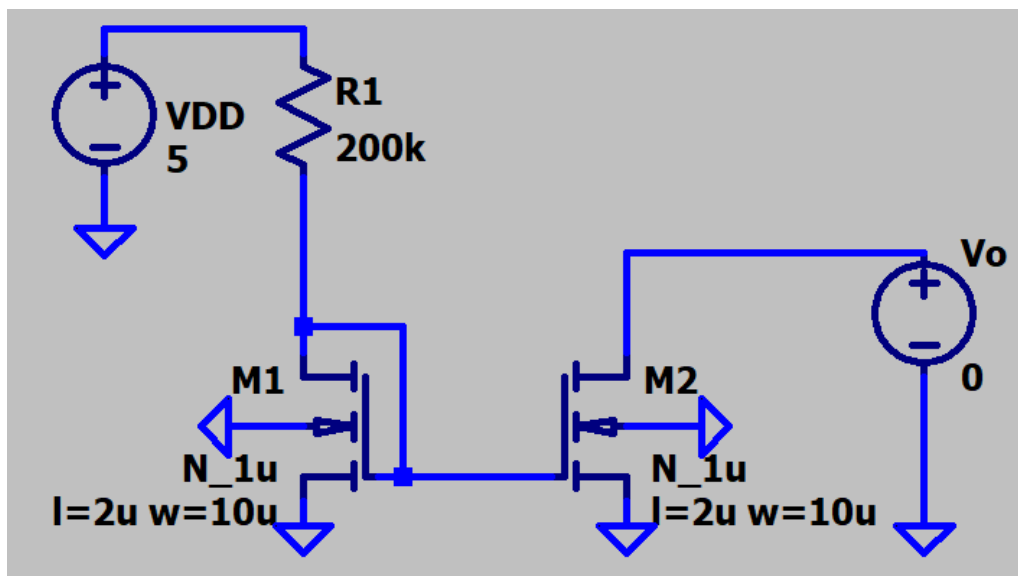

Fig. 4. A simple MOS current mirror
4. Connect the current mirror circuit in Fig. 4: